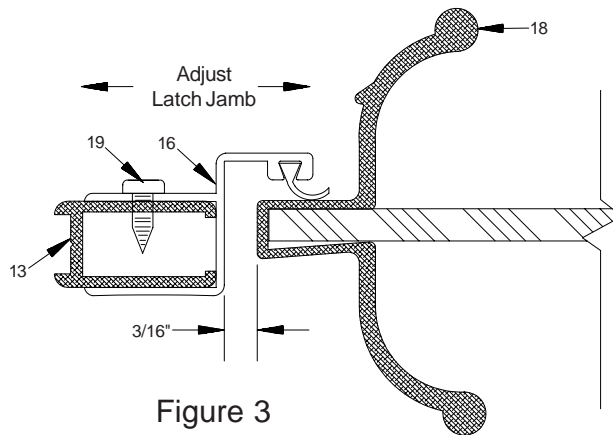

Figure 3
7. Replace wall channel and secure remaining two holes in wall channel using two #8 x 1 1/2" screws (15).
8. Replace latch jamb over wall channel. Close door and adjust latch jamb 3/16" from edge of glass (See Figure 3). Using predrilled holes in latch jamb, drill #31 holes in wall channel and secure with #6 x 3/8" SMS screws (19).
9. Set box catch (20) in place on latch jamb (16) and secure with 6-32 x 3/16" screws (4).
11. Adjust drip trough (6), up at latch side of door and down at hinge side of door so water will drain into shower when door is opened. Adjust splash vinyl (5) to within 1/8" of curb.